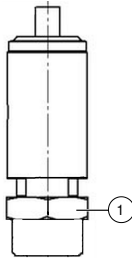
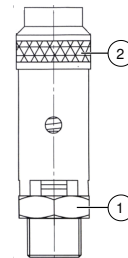

Fig. 15: 1/4" connection safety valve
Fig. 16: 1/2" connection safety valve
2. Open the safety valve for a few seconds by turning the knurled nut (Fig. 16 on page 42) counterclockwise. During this process, the closure of the safety valve opens, whereby the air must escape.
1. Attach an open end spanner to the spanner flat (Fig. 15 on page 42 and Fig. 16 on page 42) and unscrew the safety valve by turning counter-clockwise.